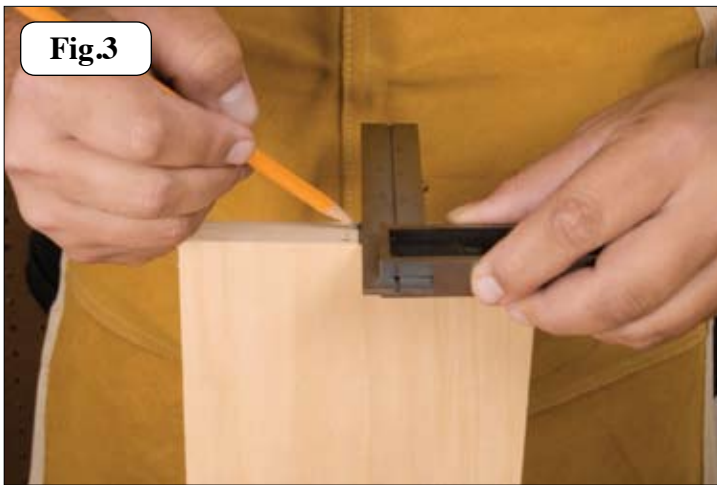
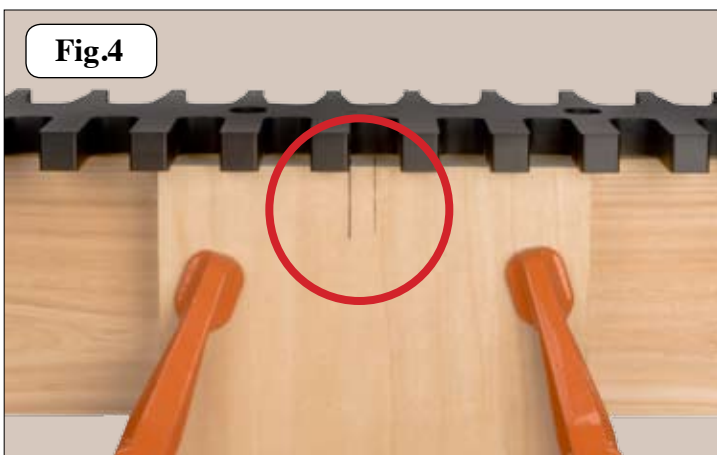

Fig.3
Fig.4
C. Place the mounted dovetail jig (tail side) on the end of stock. Position the jig, so that there are equal distances on either side of the jig. Make sure dovetail jig rest's flat on the tail stock and secure in place with F-clamps or C-clamps. To achieve an exact centered joint, mark the center of your stock, See **Fig. 3**, then measure $5/16''$ to one side of the center mark and scribe a second line with a pencil. Position the inside edge of one of the tail side openings exactly with the second scribed line See **Fig. 4**. Secure in place with F-clamps or C-clamps. This method will give equal spacing of your tails on either side of your stock.